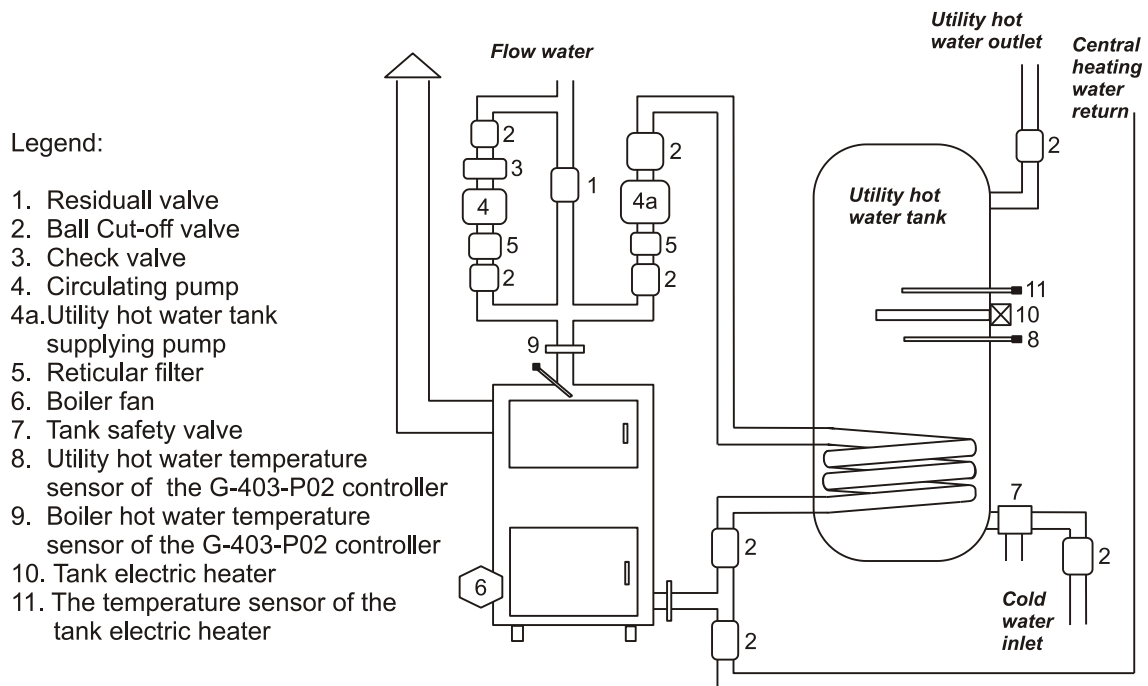

Figure 1. Central heating system block diagram (one circulating pump and one utility hot water vessel replenishing pump).
1. Connect the boiler in accordance with the diagram shown in figure 1.